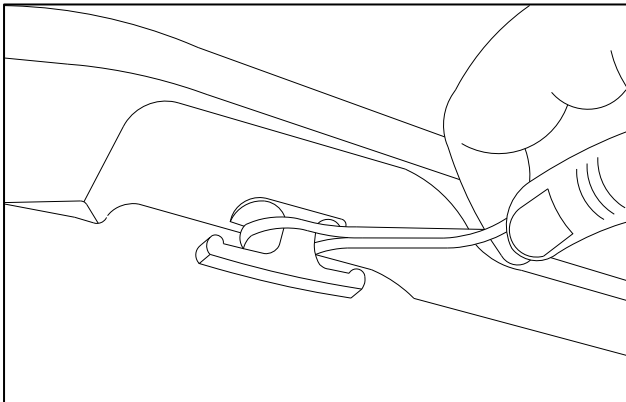

Fig. 1-5
- (e) Pull floor net's driver side rear loop rearward and install over the rear T-anchor located on the bottom side of the slide-out load floor. (Fig. 1-5)